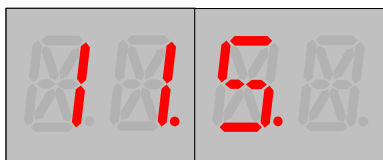

Figure 8c: Navigate to desired Bit.
3. Navigate to the desired Bit Number (UP, DOWN). See **Figure 8c**.